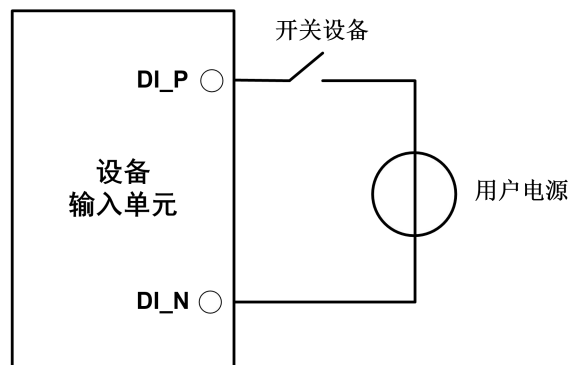

Figure 4.3 DI network connection
- 1) The timing recording mode is used to regularly collect the switching status of external equipment, such as valve closing and opening, motor start and stop, and contact connection and disconnection. Figure 4.3 shows the connection diagram.